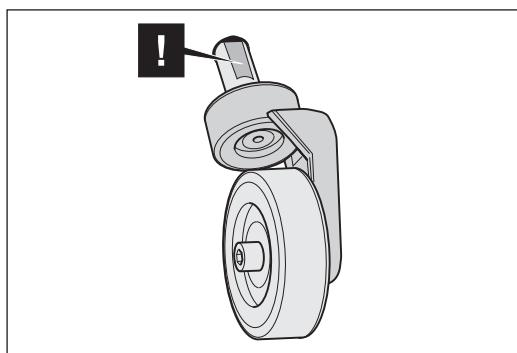

Fig. 56 When mounting the complete rear wheel, align the tensioning surface of the tail axle towards the screw in the machine housing.
- 11 Mount the complete rear wheel in reverse sequence and fasten it again in the machine housing, aligning the tensioning surface of the tail axle (Fig. 56) towards the screw in the machine housing.**